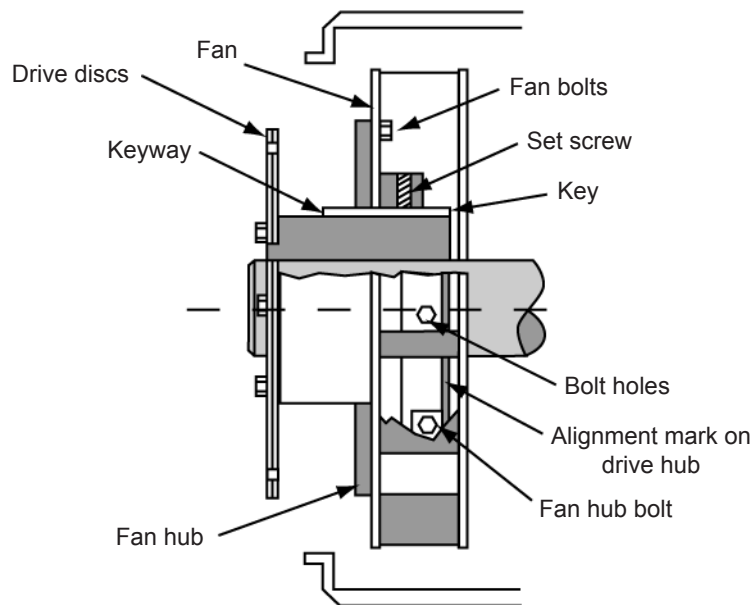

Figure 15: Moving sheet metal fans
- With sheet metal fans with cast hubs that are in turn mounted on the drive hub, mark the drive hub as close as possible to the fan hub. Loosen the two set screws, the fan clamping bolt, and the fan bolts. Wedge the fan open, and move it out of the way (See Figure 15). After attaching the drive discs-to-fly wheel bolts, align the fan hub to the mark to move the fan back to its original position. Ensure the key is fully in place under the fan hub and positioned so the set screw will press on the key. Tighten the fan hub clamping bolt and the set screws. Install the fan bolts and torque them according to Table 3.